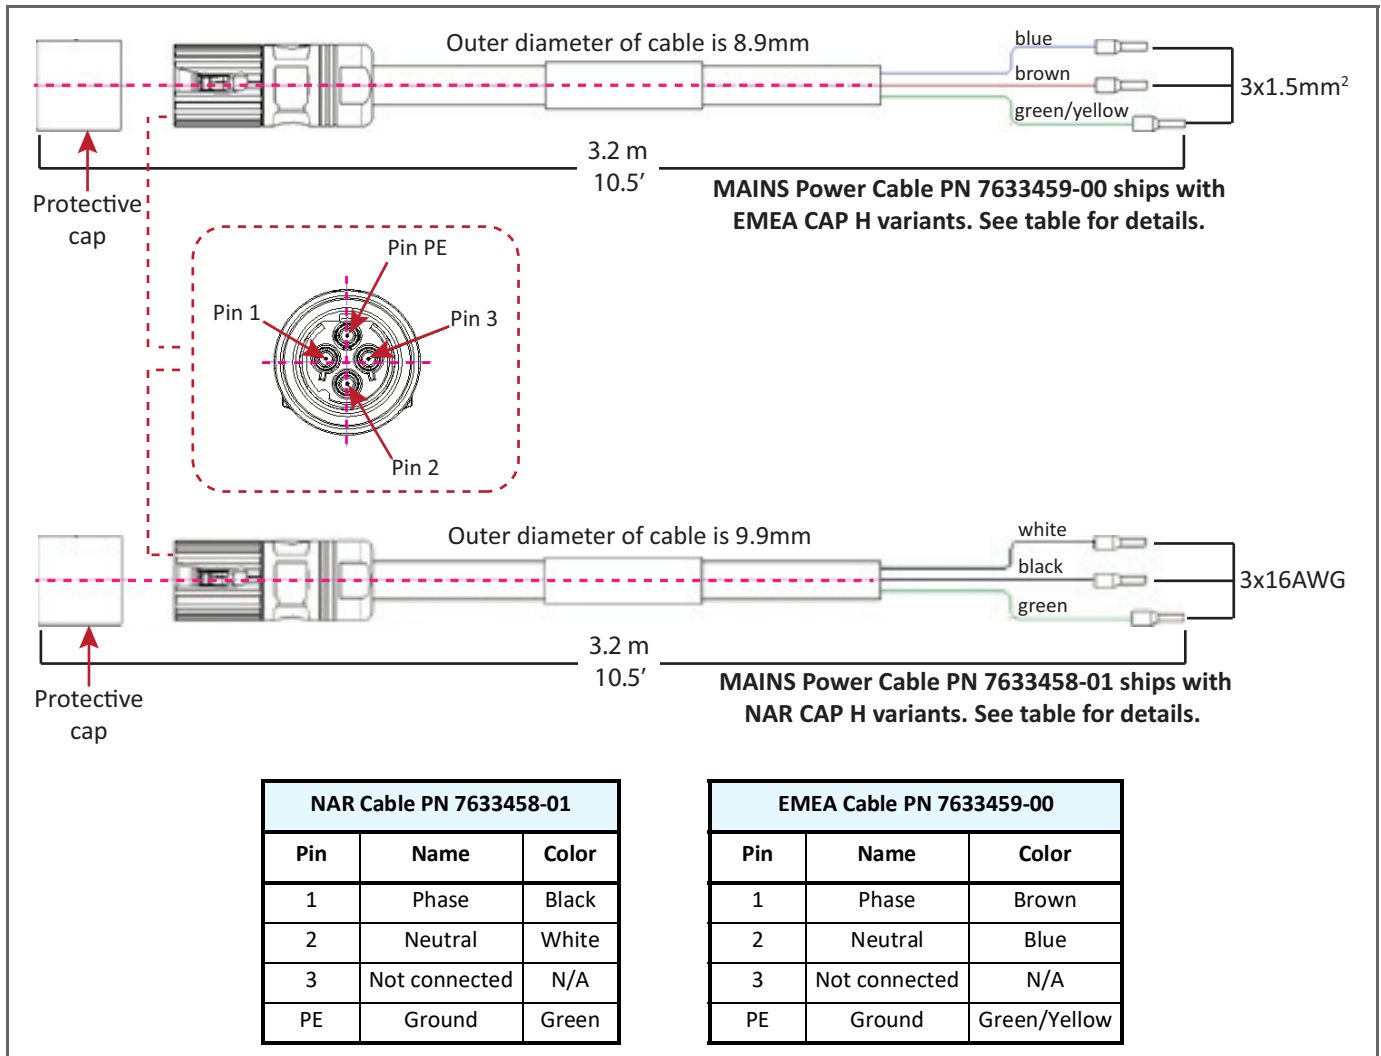

Figure 11. MAINS Power Cable
A MAINS Power cable for AC ships with each CAP H; see Figure 11. Note that there are two types of MAINS Power cables with different color coding. Make sure you are referring to the specifications for the cable with which you are working. See Table 13 for variant list.
- 2 Locate the MAINS power cable that was delivered with the CAP H (shown in Figure 11 on page 47).
- 5 Wire the power cable to the junction box or receptacle. Refer to the color code and pin numbers shown in Figure 11 on page 47.
- 8 Unscrew the protective cover from the MAINS connector of the CAP H (see Figure 11 on page 47).